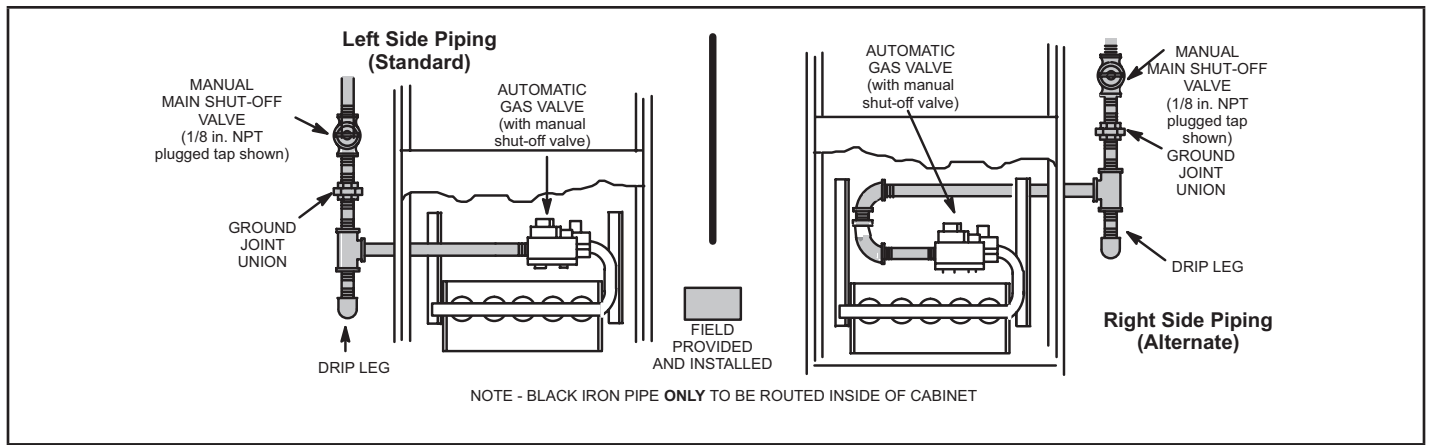

FIGURE 51
- 1 - Gas piping may be routed into the unit through either the left- or right-hand side. Supply piping enters into the gas valve from the side of the valve as shown in figure 51. Connect the gas supply piping into the gas valve. The maximum torque is 800 in lbs and minimum torque is 350 in lbs when attaching the gas piping to the gas valve.
- 3 - Gas piping must not run in or through air ducts, clothes chutes, chimneys or gas vents, dumb waiters or elevator shafts. Center gas line through piping hole. Gas line should not touch side of unit. See figures 51.